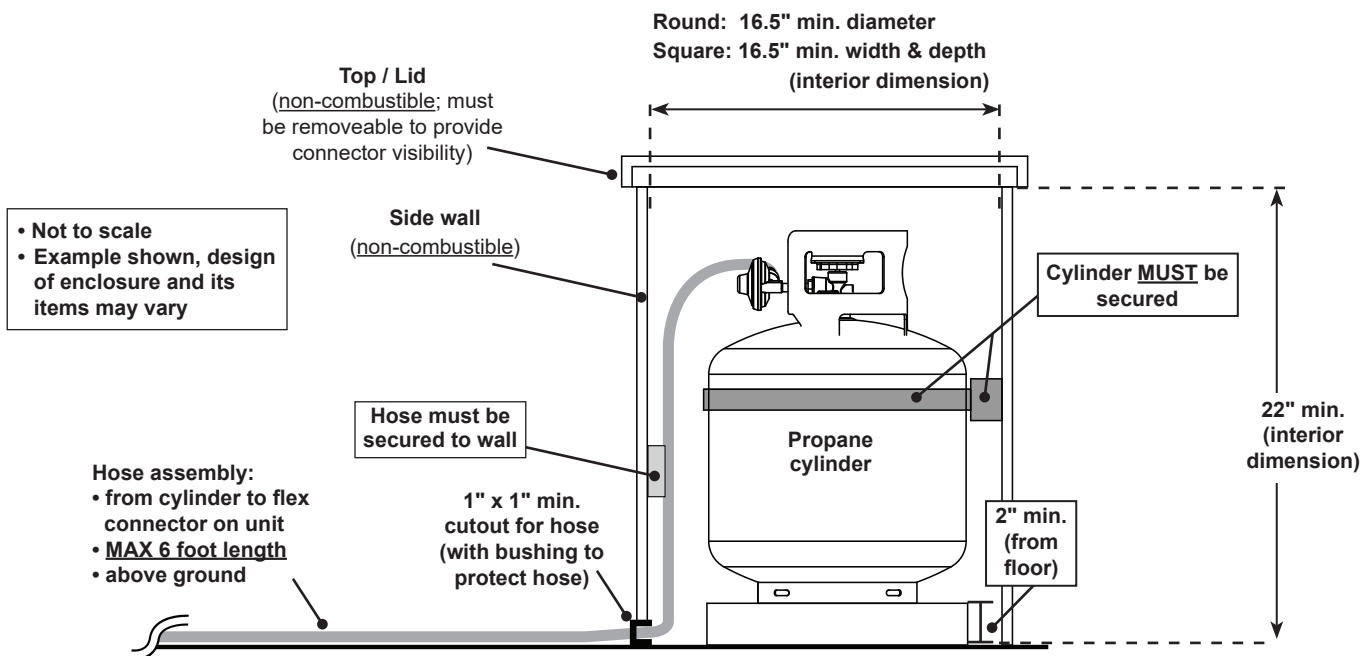

Fig. 10-1 Propane cylinder enclosure specifications (side view)
The enclosure can be constructed according to your individual preference, while following all guidelines found in this manual. **The enclosure MUST (see Fig. 10-1):**
- have the minimum dimensions specified in Fig. 10-1
- meet all requirements found in Fig. 10-1 and the following sections